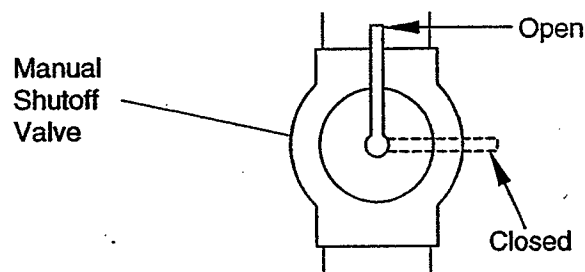

Figure 13 - Manual Shutoff Valve
1. Close manual shutoff valve (see Figure 13).
1. Open manual shutoff valve (see Figure 13).